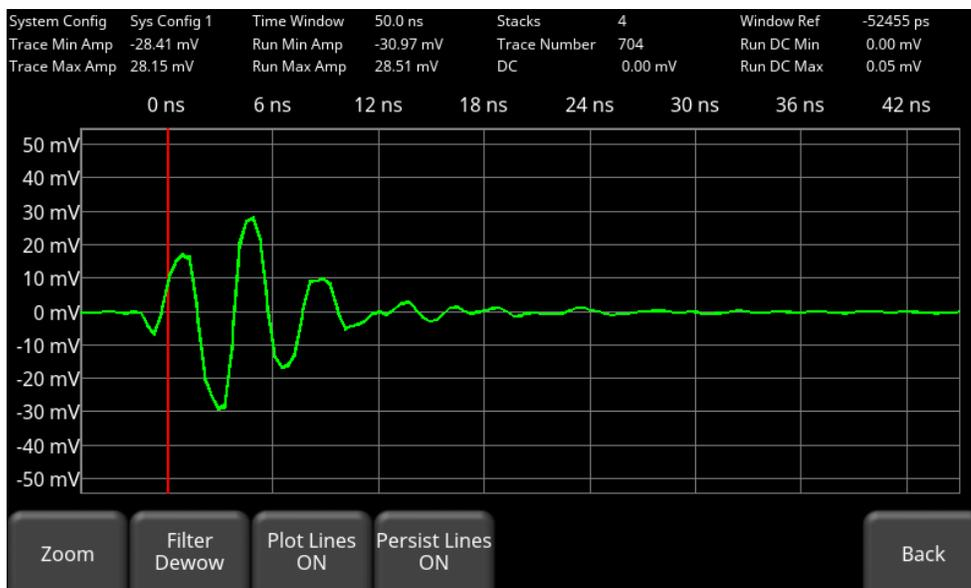

Figure 5-35: Persist Lines ON
- **Persist Lines** – When this is ON, the “cumulative” radar trace remains on the screen. This is essentially plotting one trace on top of the other every time the radar pulses (Figure 5-35). If this is OFF, only the current trace is displayed.